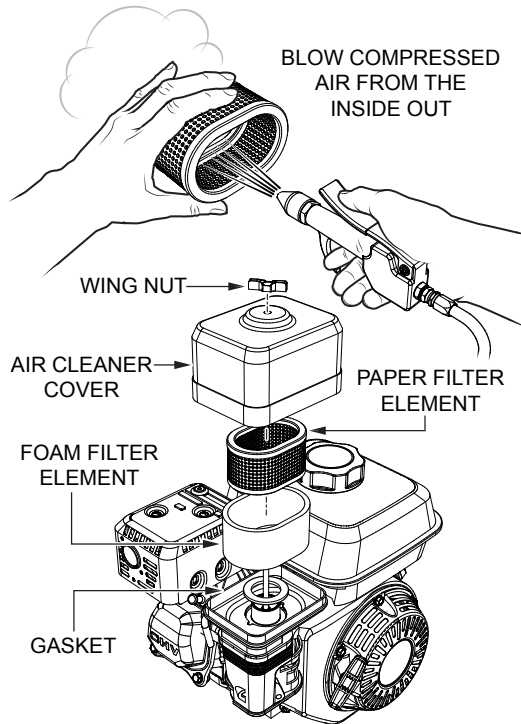

Figure 18. Engine Air Cleaner
1. Remove the air cleaner cover and foam filter element as shown in Figure 18.
2. Tap the paper filter element several times on a hard surface to remove dirt, or blow compressed air (not exceeding 30 psi [207 kPa, 2.1 kgf/cm²]) through the filter element from the air cleaner case side. **NEVER** brush off dirt. Brushing will force dirt into the fibers. Replace the paper filter element if it is excessively dirty. See Figure 18.